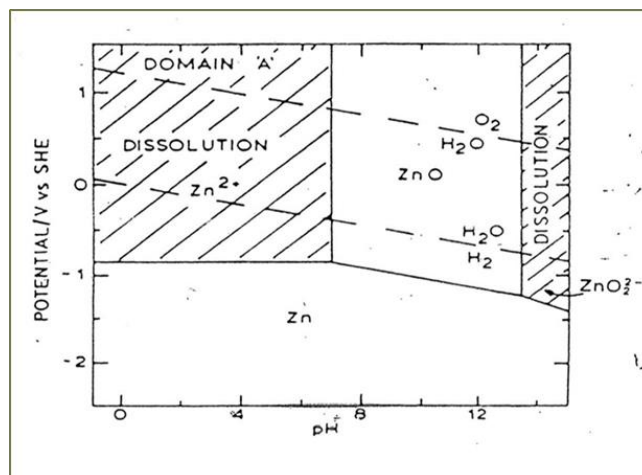

Figure 1: E_h -pH diagram for Zn-H₂O system for a metal ion activity of 10^{-3} mol/kg at 25°C
- (b). Figure 1 shows an E_h -pH diagram for Zn-H₂O system for a metal ion activity of 10^{-3} mol/kg at 25°C